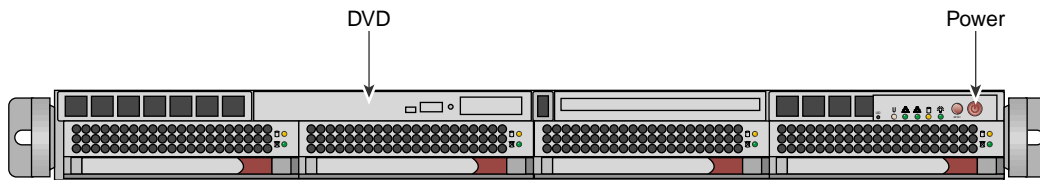

Figure 2-1 System Admin Controller Power On Button and DVD Drive
1. Turn on, reset, or reboot the system admin controller. The power on button is on the right of the system admin controller, as shown in Figure 2-1 on page 32.
2. Insert the SGI Admin Node Autoinstallation DVD in the DVD drive on the left of the system admin controller as shown in Figure 2-1 on page 32.